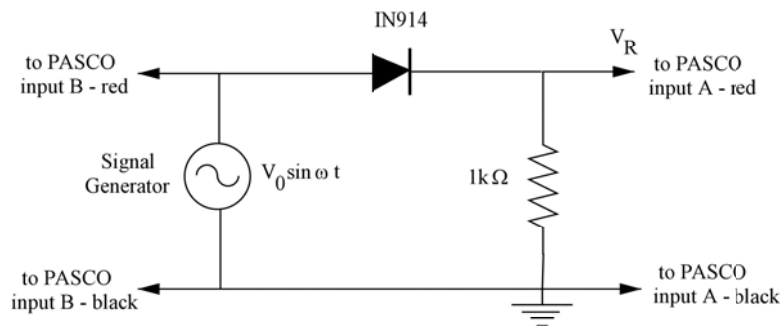

Figure 13. Half-wave rectifier circuit diagram.
1. Hook up the circuit shown below in Figure 13. You must pay careful attention to this circuit. The positive signal (red cable) of the signal generator is the Hi Ω output, and the negative end is the ground output.